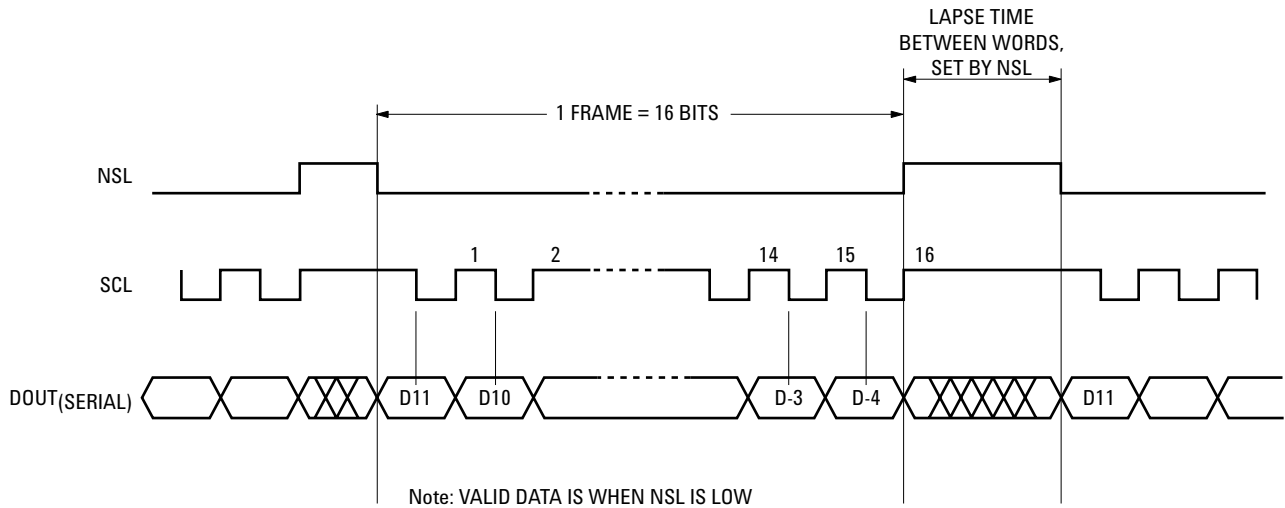

Figure 3. Timing Diagram
Valid data of DOUT should be read when the SCL clock is low. Please refer to timing diagram (Figure 3).
1. After powering up the unit using  $V_D = +5$  V and connecting GND to ground, trigger input pins NSL and SCL using the timing diagram (Figure 3). NSL is a control pin for the internal shift register. NSL=1 is load mode while NSL=0 is shift mode for the shift register. When NSL=0 and combined with clock pulses, the serial Gray code will be shifted out to DOUT bit by bit per every clock pulse. Valid data of DOUT should be sampled at the falling edges of the clock pulses.